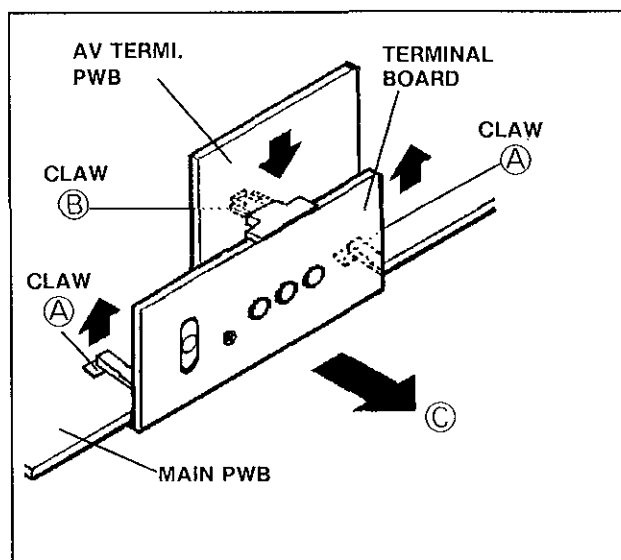

Fig. 3
2. Remove the claws marked (A) and (B) by widening slightly in the direction of arrow as shown in Fig.3.
3. Remove the TERMINAL BOARD in the direction of arrow marked (C) as shown in Fig.3.